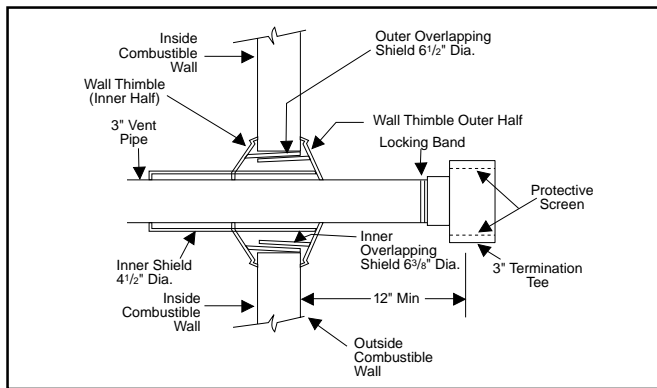

Figure 17. Typical Termination
11. Cut an 8 inch minimum piece of vent pipe and connect the coupling to the termination tee. The inside of the tee must be a minimum of 12 inches from the outside of the wall. (See Figure 17.)